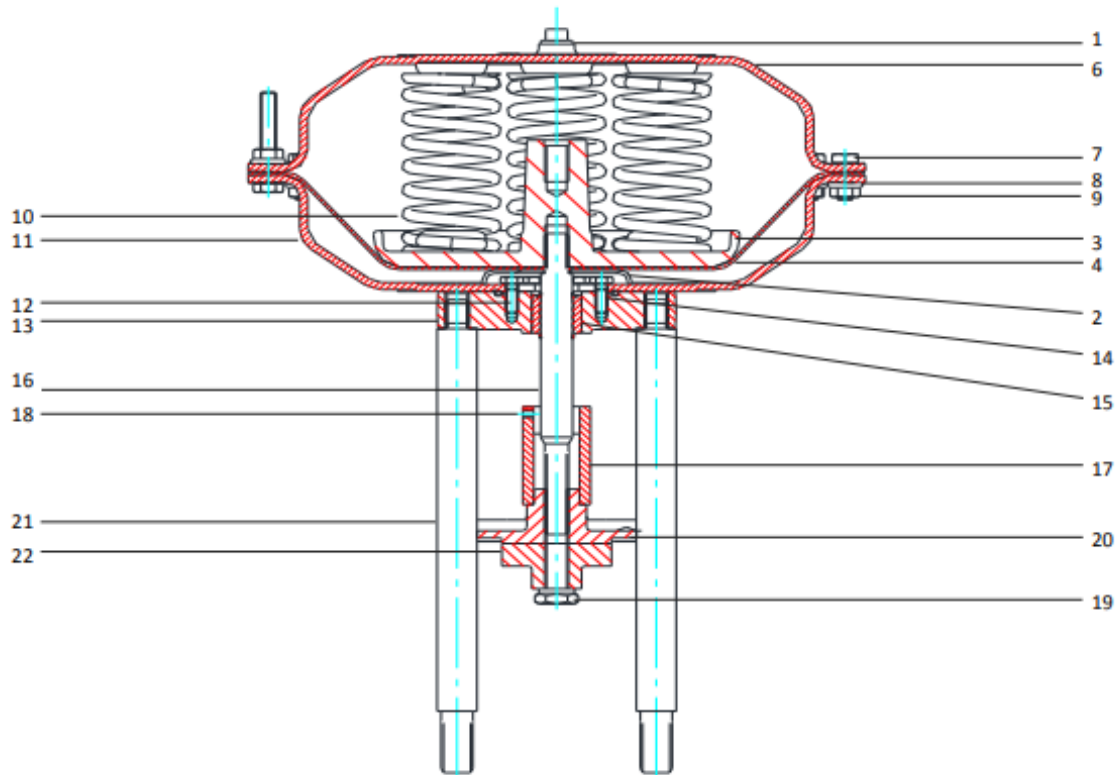
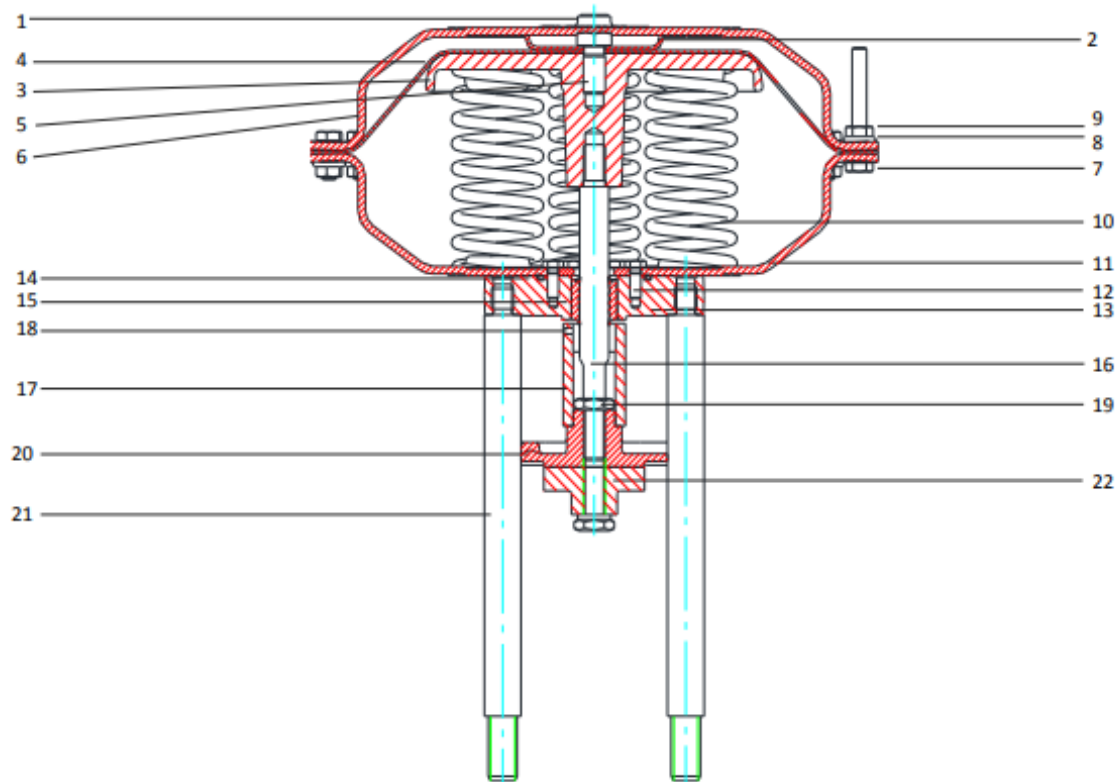

Figure 33: Reverse Acting (Spring Close)
Figure 34: Direct Acting (Spring Open)
Loosen the set screw (18) on the arrester (17) then loosen the nut (19). Remove the pillars (21). With the use of a locknut (tighten two nuts against each other, then by unscrewing the bottom one the pillar can be removed) (refer to Figure 33 and Figure 34).
Using a vernier caliper measure the distance between the underside of the parallel guide (20) and the end of the actuator stem (16) this distance must be noted for readjustment later. Loosen and remove the nut (19), parallel guide (20) and the arrester (17). Mark the upper (6) and lower casings (11) for reassembly later (refer to Figure 33 and Figure 34).
Remove the regular casing bolts (7) gradually, alternately loosen the nuts on the remaining long casing bolts (7) to allow decompression of actuator springs (refer to Figure 33 and Figure 34).
Remove upper casing (6) then remove the springs (10). Take out the diaphragm assembly (consisting of diaphragm (4), actuator stem (16) diaphragm ring (2) and diaphragm plate (3). Clamp the diaphragm plate in a vice and unscrew the actuator stem (16) with the use of a locknut (refer to Figure 33 and Figure 34).
Remove the old diaphragm and replace with a new one. Place the diaphragm plate (3) on the new diaphragm, then turn the diaphragm over and place the diaphragm ring (2) on the other side, apply Loctite 270 to the thread on the actuator stem (16) then screw this into the diaphragm plate (3) by hand (refer to Figure 28, Figure 33 and Figure 34).
Unscrew the 3 bolts (12) fastening the connection flange to the lower casing (11). Remove the seal (14) from the connection flange and replace with the new seal (refer to Figure 33 and Figure 34). Place the lower casing over the connection flange (paying attention that the holes line up) Apply Loctite 270 on the thread of the 3 bolts, then tighten them with torque 11.8 ft-lbs (16 Nm).
Remove upper casing (6). Take out the diaphragm assembly (consisting of diaphragm (4), actuator stem (16), diaphragm ring (2) and diaphragm plate (3)), then remove the springs (10). Clamp the diaphragm plate in a vice and unscrew the diaphragm ring bolt (5) clamping the diaphragm between the diaphragm plate and the diaphragm ring (refer to Figure 33 and Figure 34).
Remove the old diaphragm and replace with a new one. Place the diaphragm plate (3) on the new diaphragm, then turn the diaphragm over and place the diaphragm ring on the other side, apply Loctite 270 to the thread on the bolt then screw this into the diaphragm plate by hand (refer to Figure 29, Figure 33 and Figure 34).